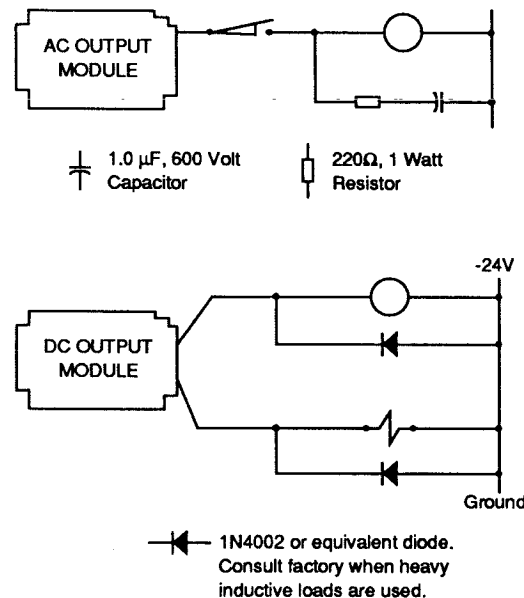

Figure 2-16 Device Arc Suppression
2. 115 volt AC coils, solenoids, etc. have to be suppressed if a contact is placed between the coil and the AC Output Module. This is shown in Figure 2-16.
3. Direct current (DC) outputs should be suppressed by use of a diode (see Figure 2-16). If dropout time is critical in an application, a metal oxide varistor (MOV) should be used for DC output arc suppression in place of the diode. The metal oxide varistor should be rated at 30V.